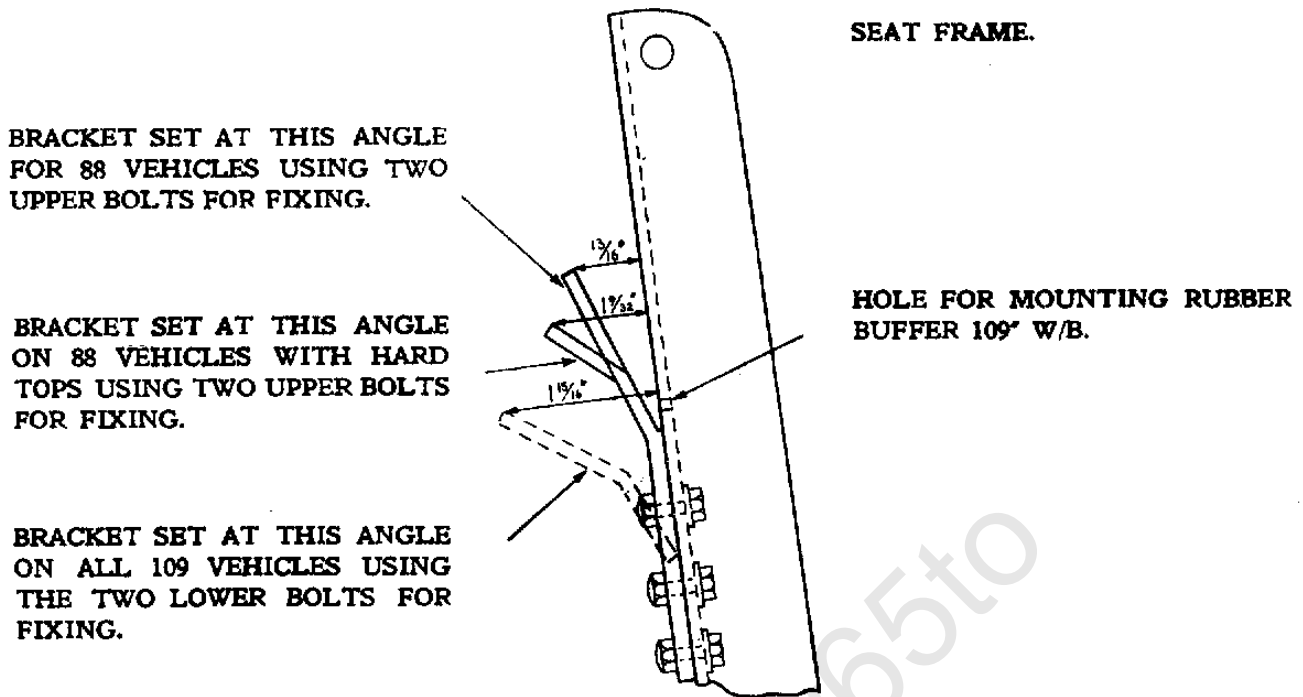

Fig. 1.
1. Ensure that the support angles on the seat frame assembly are set and fitted in their correct positions. For 88 use the upper pair of holes and 109, use the lower pair of holes. Leave the bolts loose until the seat frame assembly is in position. For further details of support angle setting see Fig. 1.